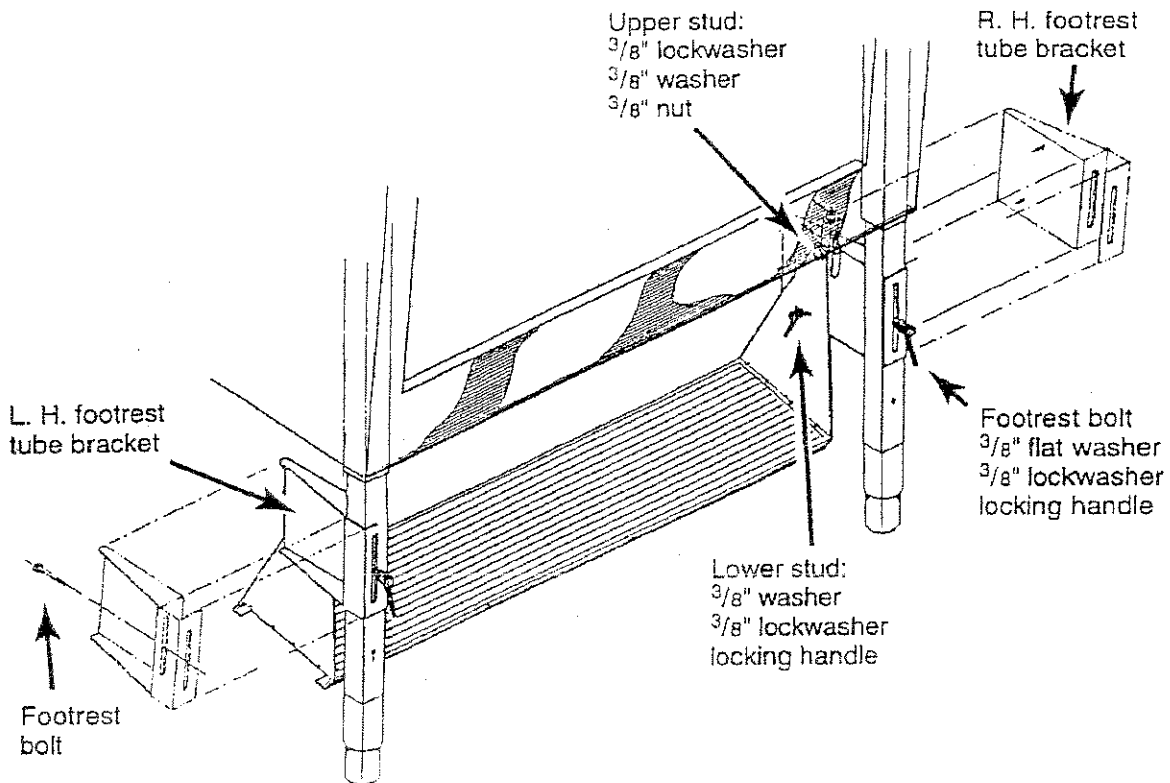

Fig. 4 Assembling the Footrest
1. Slide the right-hand and left-hand footrest tube brackets over the front adjustable legs as shown in Fig. 4.